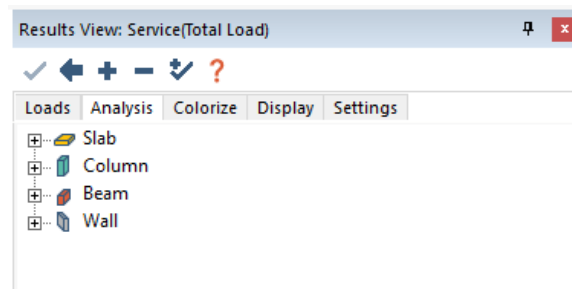

Figure 14-2
- Select **Yes** to save the solution. The *Results Browser* dialogue window will appear. See **FIGURE 14-2**.
- Select **Yes** to save the solution. The *Result Display Settings* dialogue window will appear. See **FIGURE 14-2**.